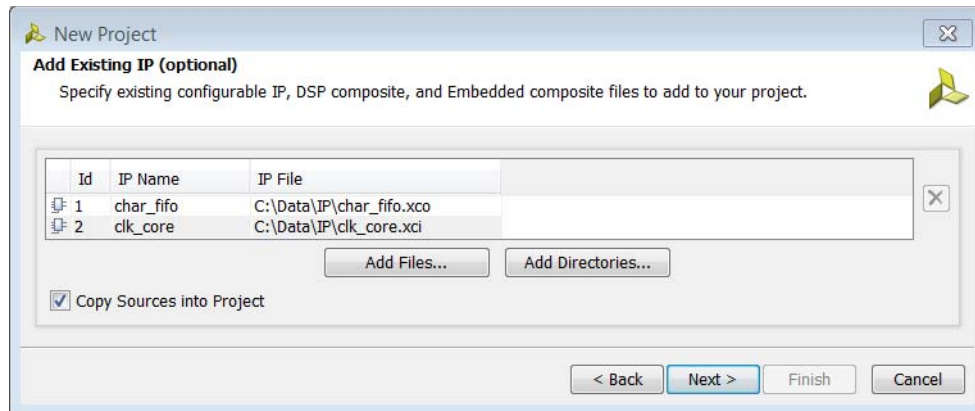

Figure 2-4: New Project Wizard—Add Existing IP Page
4. *Optional:* In the Add Existing IP page (Figure 2-4), set the following options, and click **Next**: